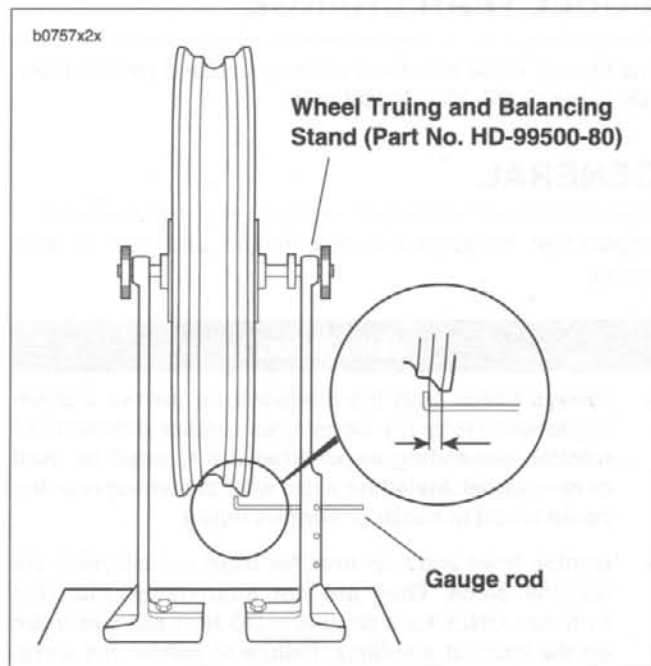

Figure 2-18. Checking Cast Rim Lateral Runout
1. See Figure 2-18. Install truing arbor in wheel hub and place wheel in WHEEL TRUING AND BALANCING STAND (Part No. HD-99500-80).